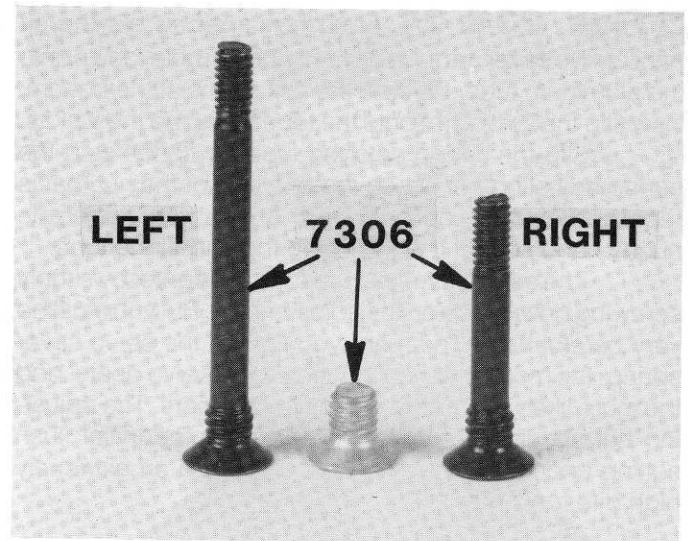

Fig. 19
□ **Figs. 19 & 20** From Bag 7-4 remove the short silver 8-32 flat head screw. Then, from Bag 7-2, the two longer steel screws. The long screws are two different lengths and have a short threaded shank by the screw head, a smooth center shaft, and then a threaded end.